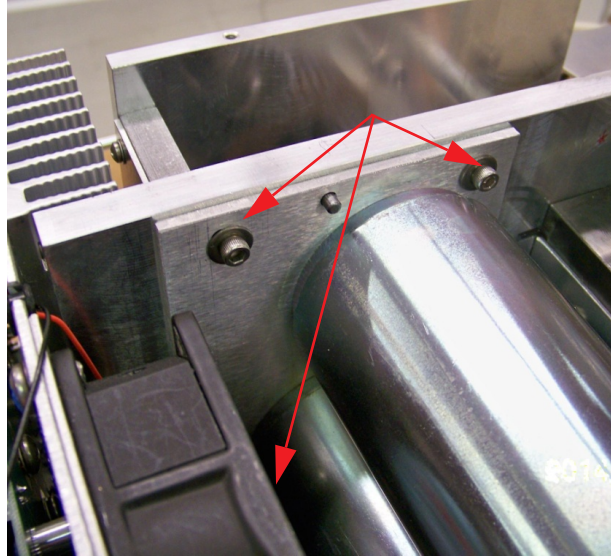

Figure 9-23 Location of screws and washers holding the motor in place
6. Remove the three screws and three flat washers that hold the motor plate onto the bearing plate. Two of the screws are on top and the third screw is down below the fan (Figure 9-23).
3. Once the motor plate is located properly over the two locating pins install the three screws and three flat washers to hold motor in place and tighten the screws (Figure 9-23).